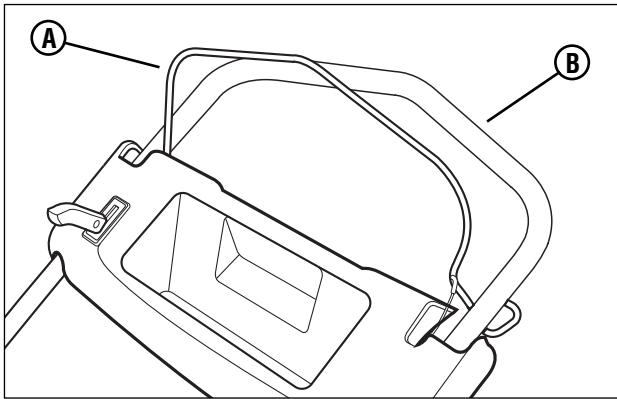

Figure 1: Mower controls
2. Check the blade control (A, **Figure 1**) and drive handle (B) to insure they work freely.